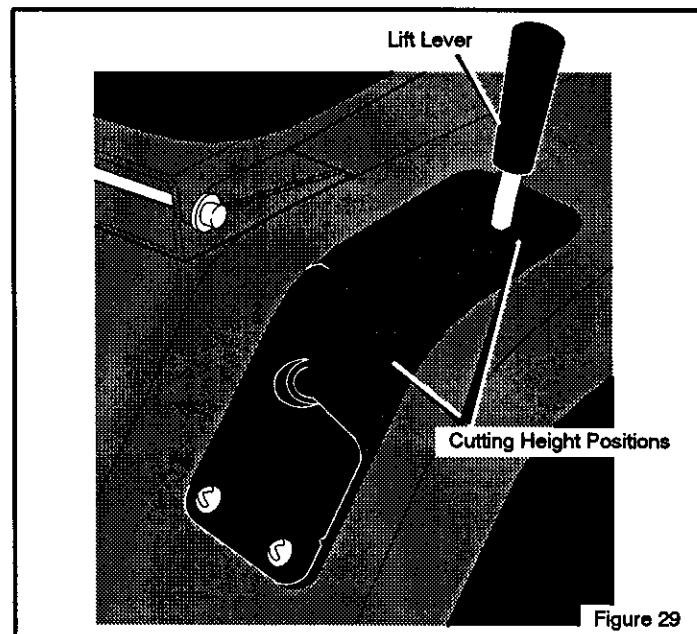

Figure 29
2. Mow a short distance on a flat level area to check the level of cut and the height of cut. Look at the height of cut position number on the lift lever (Figure 29).